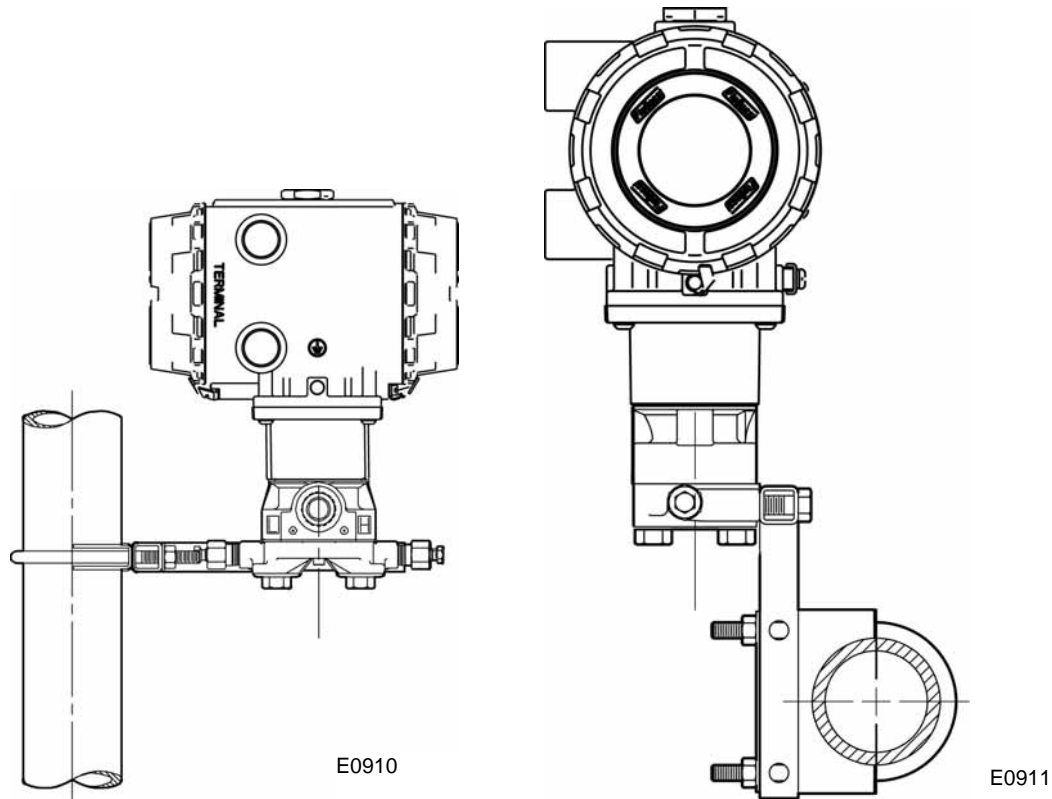

Figure 2-3. Mounting Styles
3. Install the FloBoss 103 on the pipestand using clamps or mounting brackets. Refer to Figure 2-3.
2. Install the FloBoss 103 on the meter run using a manifold and hardware to secure the FloBoss 103 to the orifice flanges. Refer to Figure 2-3.